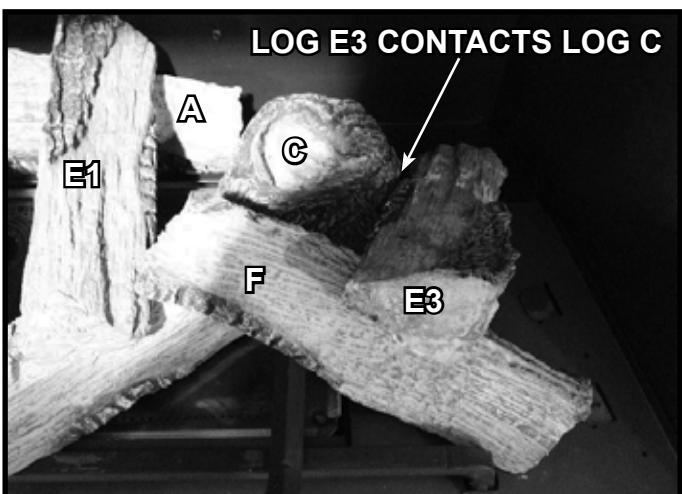
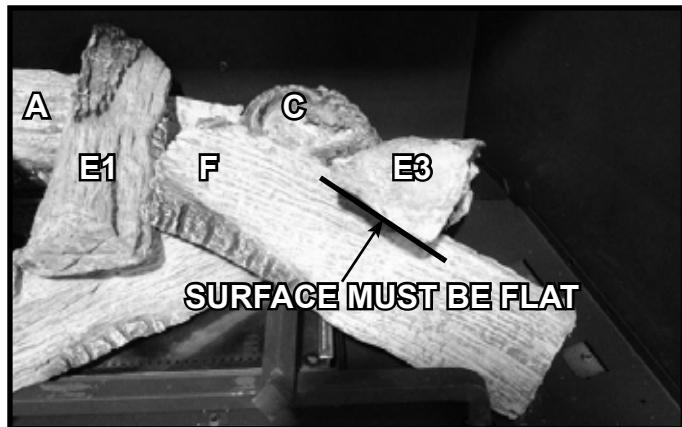

Figure 12. Log E3 Installed
Figure 13. Log E3 Installed
8. (LOG E3): Place Log E3 into appliance as shown in Figure 12. The bark should be toward the front of the appliance. The bottom of the log should be flat against the surface of Log F as shown in Figure 13. Slide Log E3 toward the rear of the firebox until it contacts the log pin, keeping the flat surfaces in contact as noted in Figure 13. Log E3 should contact Log C as noted in Figure 12. Figure 3 shows the installed log set.